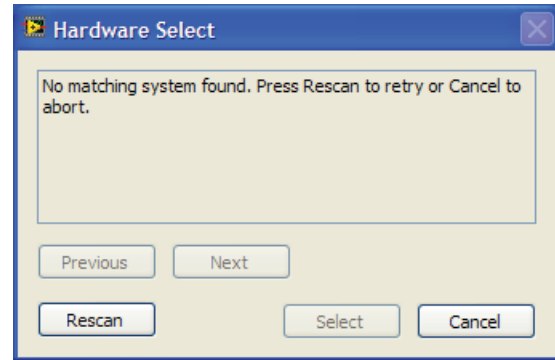

Figure 9. Pop-Up Window Error
2. If the SDP board is not connected to the USB port when the software is launched, a connectivity error is displayed (see Figure 9). Connect the evaluation board to the USB port of the PC, wait a few seconds, click **Rescan**, and follow the instructions.